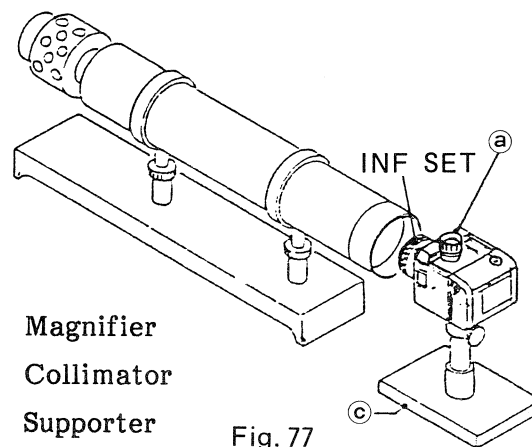

Fig. 77
2. Install the Fresnel lens again and attach the standard lens (80 mm/F.2.8) to camera body, set it as shown in Fig. 77 and check the focus.